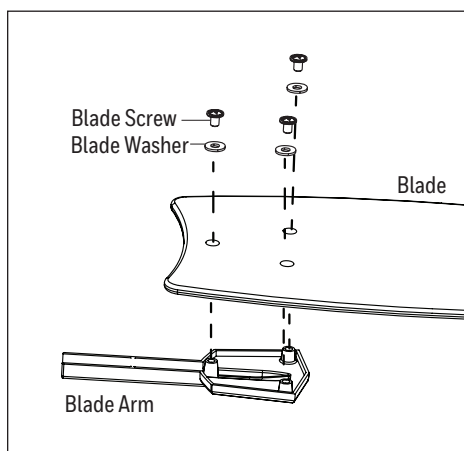

Figure 5.4
4. Partially insert the blade screws along with blade washer through blade and into the blade arm. Tighten each blade screw with a Phillips screwdriver, starting with the one in the middle. Repeat this step for the remaining blades and blade arms (Figure 5.4).